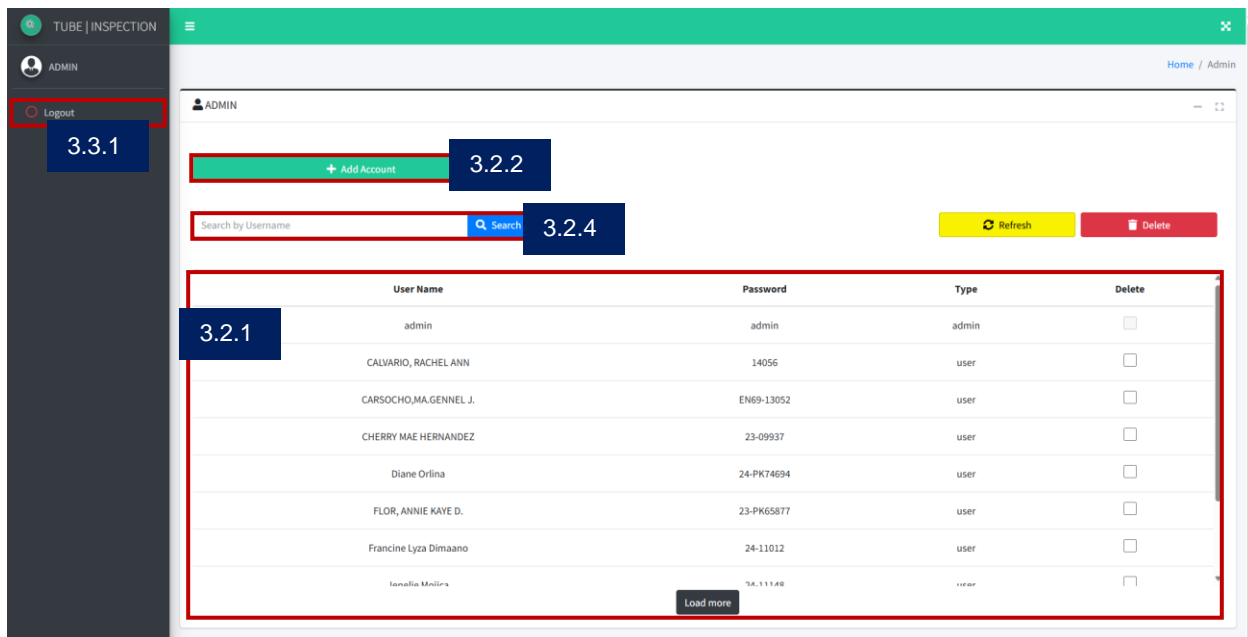

Figure 6. Admin – Accounts Page
3.2.1 The table displays a list of accounts with system access. *See Figure 6*
3.2.2 Click on the Add Account button to view the add account form. *See Figure 6*
3.2.4 Utilize the search field to find specific account data. *See Figure 6*